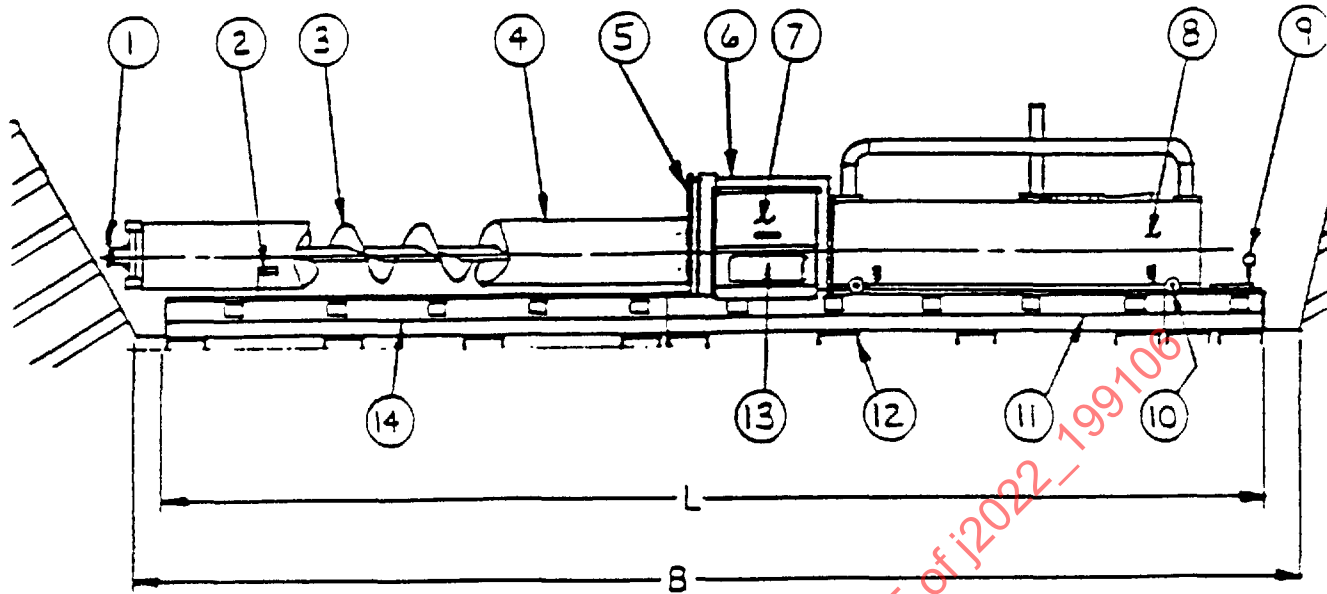

FIGURE 1—TRACK-TYPE AUGER BORING MACHINE
4.1.1.1 Nomenclature—(Refer to Figures 1 to 3)